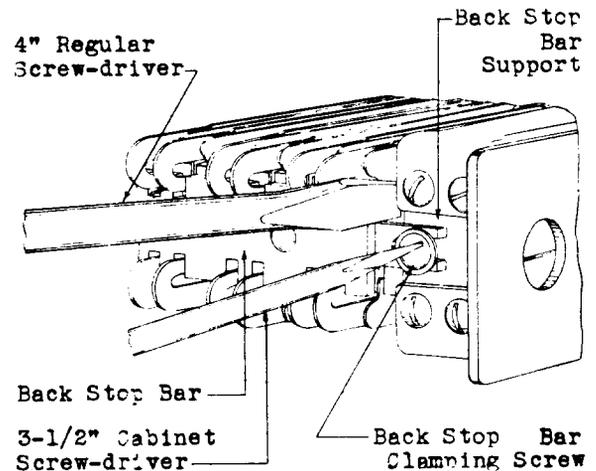

Fig. 19 - Method of Moving Back Stop Bar for Contact Separation
(4) If many of the contacts are closed, with the .012" gauge in place, move the back stop bar. To do this, loosen the back stop bar clamping screws slightly with the 3-1/2" cabinet screw-driver at the same time holding the bar from moving away from the magnet, due to the tension of the front contact springs, with the 4" regular screw-driver inserted between the end of the bar farthest from the magnet and the back stop bar support as shown in Fig. 19.
(12) If many of the contacts do not meet the requirement, loosen the back stop bar clamping screws slightly with the 3-1/2" cabinet screw-driver, at the same time holding the bar from moving away from the magnet, due to the tension of the contact springs, with the 4" regular screw-driver inserted between the end of the bar farthest from the magnet and the back stop bar support, as shown in Fig. 19. Then shift the back stop bar by moving the 4" regular screw-driver to the left or right until the requirement is met on the maximum number of contacts. Tighten the clamping screws securely, using the 3-1/2" cabinet screw-driver. Adjust as outlined in (11), the tangs of any back stop springs which it is not possible to adjust by moving the back stop bar.
(13) After considerable contact wear an initial adjustment of the separation may be made by holding the locking spring away from the draw bar adjusting nut and turning the adjusting nut in with the No. 310 wrench.
(14) Then make the final adjustment by adjusting the spring tangs and moving the back stop bar. If with the springs in adjustment, they are not approximately perpendicular to the draw bar and back stop bar, it is an indication that the draw bar adjusting nut is not located properly on the draw bar link. In